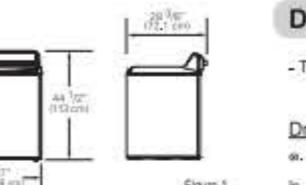

Figure 1
- Check the dimensions of the appliance when planning transport and installation. (Figure 1).